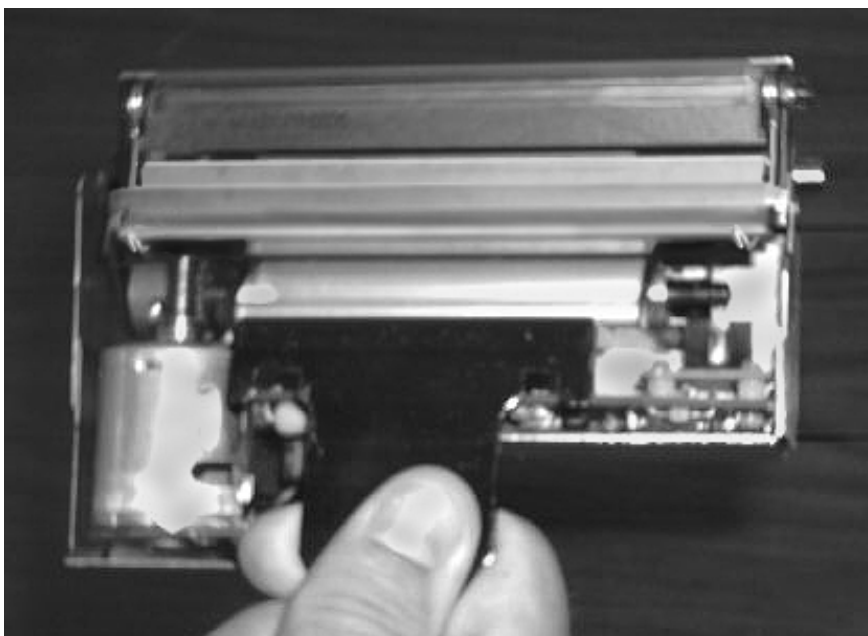

Figure 23 Reassembled Cutter Module
4. Lower the Upper Cutter Blade Guard back to its normal position. When reassembled, the back of the Cutter Module should look like the one shown in Figure 23.